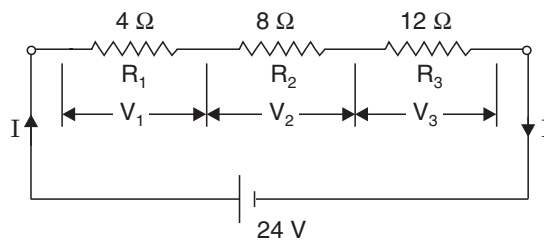

Fig. 10
1.14.1. Voltage divider rule. Since in a series circuit, same the same current flows in each of the given resistors, voltage drop varies directly with its resistance. Fig. 10 shows a 24 V battery connected across a series combination of three resistors.